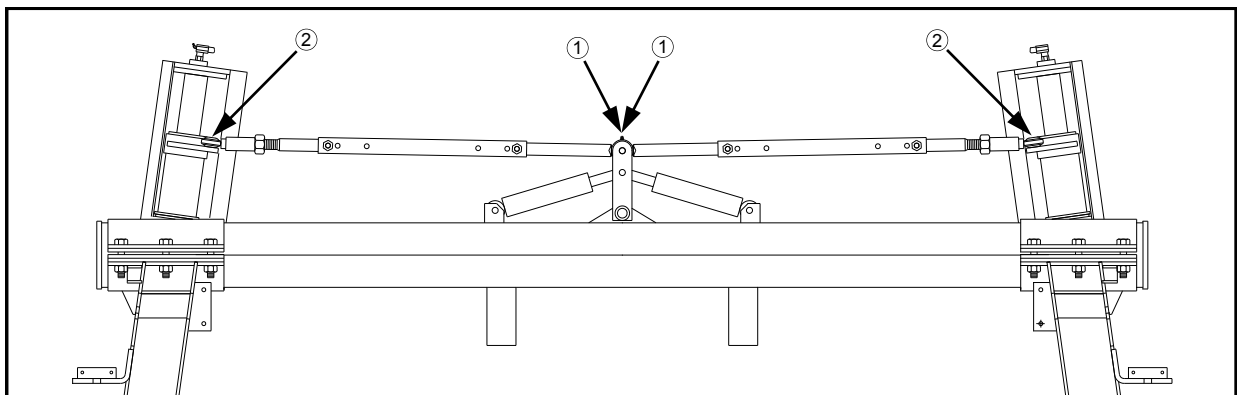

FIG 7.35
To steer, the inner leg weldment also pivots inside the outer leg weldment. The tie rods connected to the steering legs have grease zerks on both each inner tie rod end (fig 7.35, item 1) and each outer tie rod end (fig. 7.35, item 2). To maintain freely operating steering, they should be greased